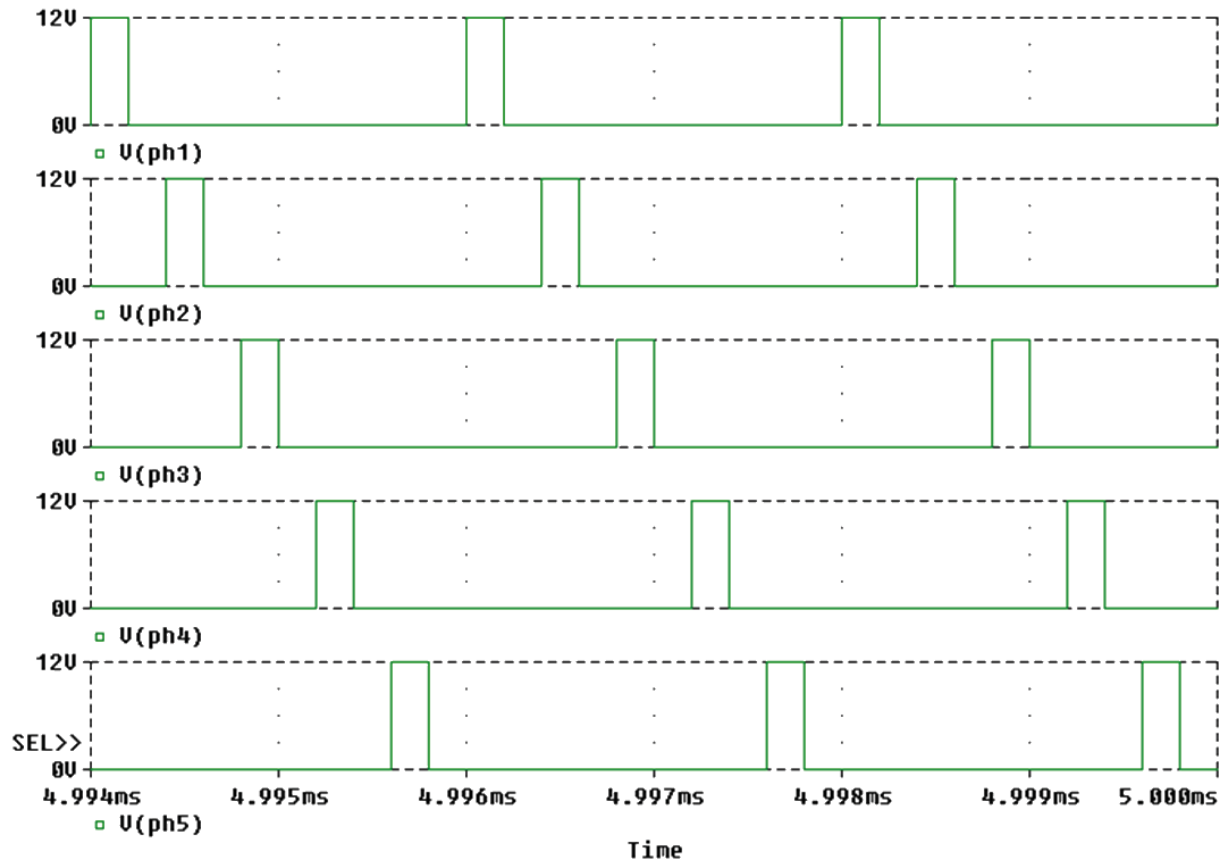

Fig. 2: Phase Voltages
- **Vph1** to **Vph5** represent phase voltages as generated by MOSFETs switching at 500 kHz. The wave forms at each **Vph** are shown in **Fig. 2**.